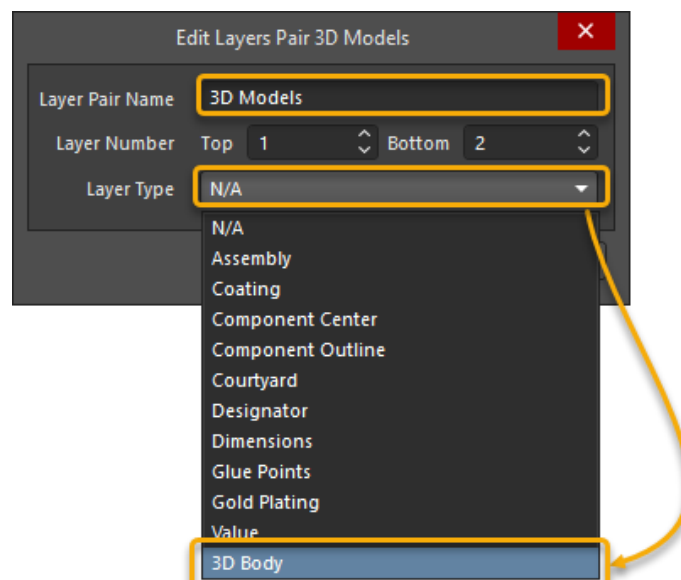

Figure 34. Configure Mechanical Layer Pairs
49. Enter the information shown in Figure 34. Change *Layer Pair Name* to **3D Models**, and from the *Layer Type* drop down list select **3D Body**.